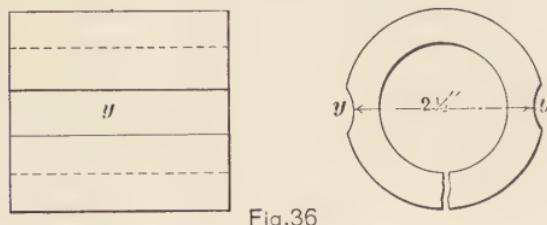
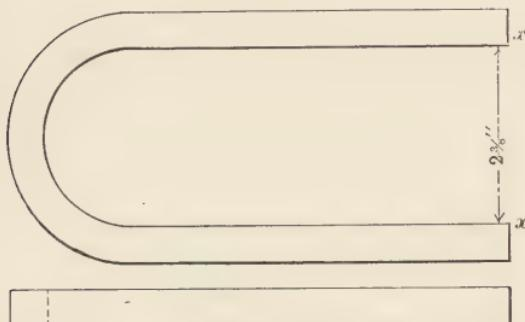

Fig. 36
Fig. 37
**Turnbuckle or Swivel.**—Directions will first be given for the swivel, since the same steps are followed in making a turnbuckle. First select a piece of flat stock and bend into a collar like the one in Fig. 36, with the ends separated at *A* by about  $\frac{1}{8}$  inch, this distance depending somewhat upon the size of swivel that is to be made. This collar is to form the threaded part of the swivel. Cut a groove *y* *y* on each side of
the collar. Now take a piece of round stock of the size required for the yoke, and bend as in Fig. 37, making the distance  $x x$  between the two ends  $\frac{1}{8}$  inch less than the distance  $y y$  between the grooves of the collar in Fig. 36. This is so that when the yoke is sprung over the collar ready for welding it will stay